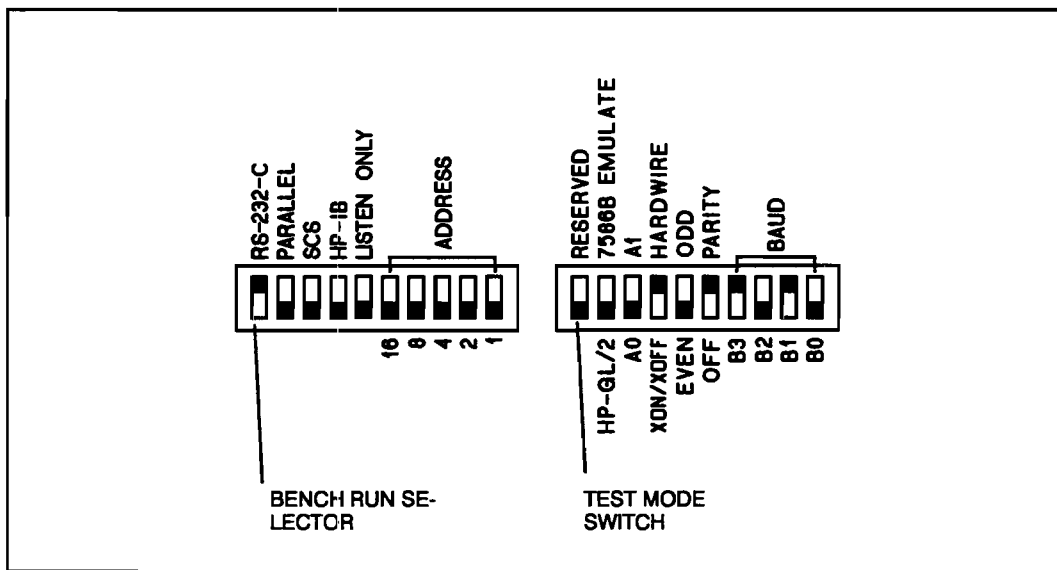

Figure 8-12. VRC Panel Switches
1. Turn the plotter OFF (O).
3. Set the Test Mode and Bench-Run Switches ON (I). See Figure 8-12.
4. Turn the plotter ON (I).
5. The test will begin and continue until the plotter is turned OFF (O).